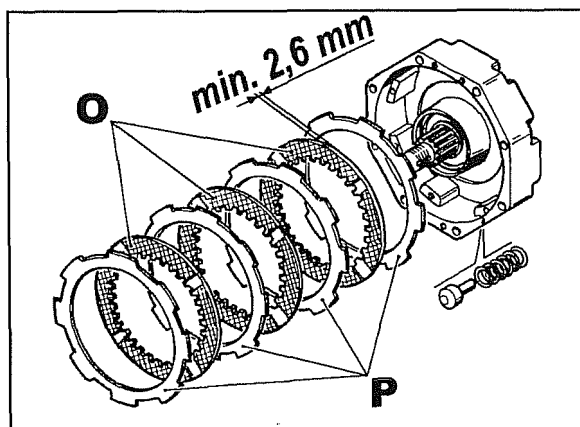
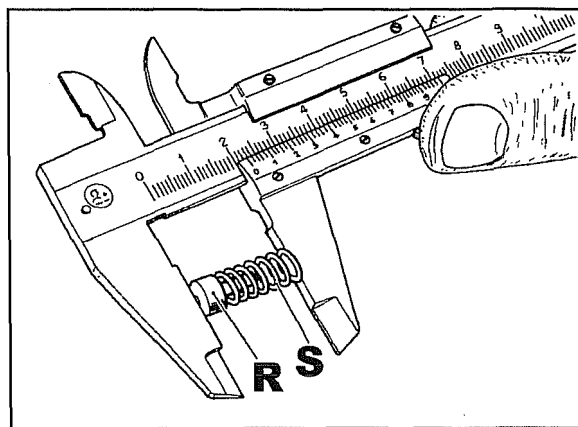
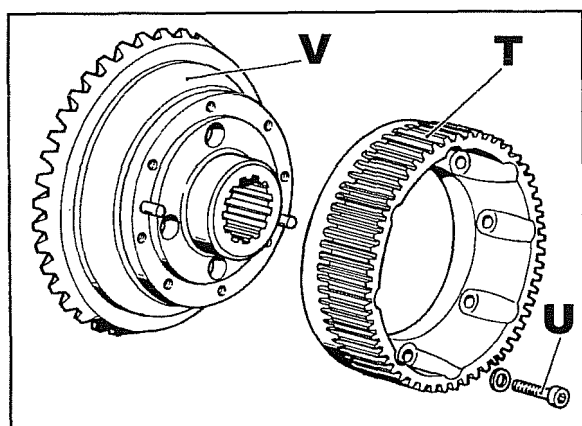
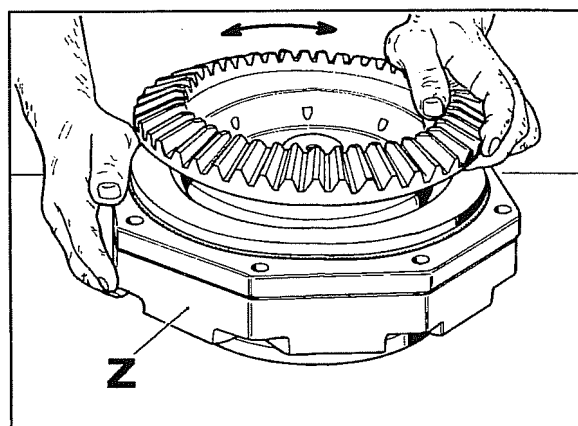

Fig. 26
Fig. 27
Fig. 28
Fig. 31
Fig. 26 illustrates the parts making up the brake.
- 35 Check wear on disks **O** fig. 26 by measuring their width which should never be less than **2.6 mm**. Also check to make sure the steel disks **P** are in good condition and, if necessary change them. Use a gauge to check the 8 pins **R** fig. 27 with their springs **S**. Their measurement should not be less than **22.5 mm**. If necessary replace the springs.
- 36 Check the wear status of keyed ring **T** fig. 28. If it has to be replaced, separate from ring gear **V** by removing screws **U**.
- When reassembling ring gear **V** fig. 28 on the brake **Z** fig. 31, pay special attention to ensure that all the disks **O** fig. 26 couple with the keyed ring **T** fig. 28. Assemble the parts with a rotary movement as illustrated in fig. 31 to achieve this.